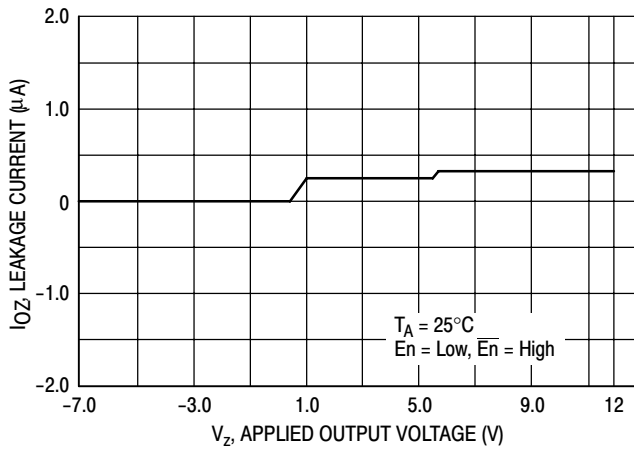

Figure 13. Output Leakage Current versus Output Voltage
- the junction temperature exceeds the trip point of the thermal shutdown circuit (see below). When in this condition, the output’s source and sink capability are shut off, and only leakage currents will flow (see Figures 13, 14). Disabled outputs may be taken to any voltage between -7.0 V and 12 V without damage.